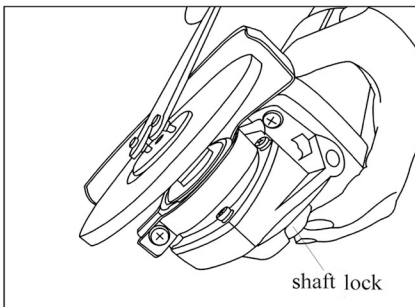

Fig3
2. To tighten the outer flange, Press the shaft lock firmly so that the spindle cannot revolve, then use the lock nut wrench and securely tighten clockwise. (Fig 3)